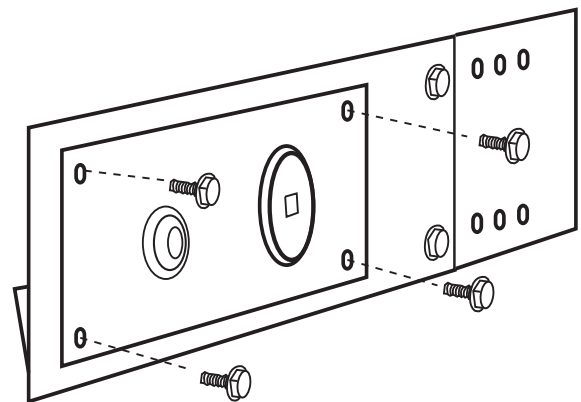

Fig. 8 Close up view securing MT face plate into the paver bracket..
STEP 3: Secure the key valve bracket into place using the four black thread cutting screws (See Fig. 8).